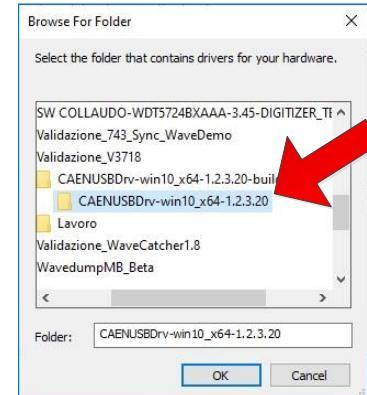

Fig. 11.4: USB Driver Installation: step 4
4. Press the [Browse] button and point to the destination path on the host PC where you unpacked the downloaded driver (Fig. 11.4).